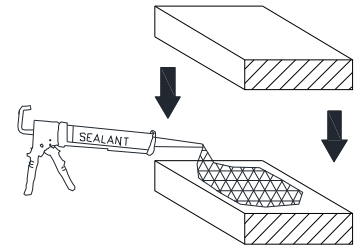

Figure C1:
1. When 2 blocks are required, bond Setting Blocks together with a compatible sealant (Figure C1).